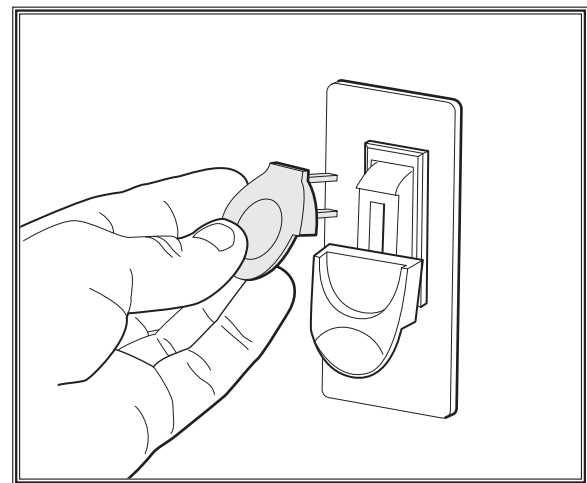

Figure 23. Removing switch key from paddle switch.
4. Remove switch disabling key (see **Figure 23**).